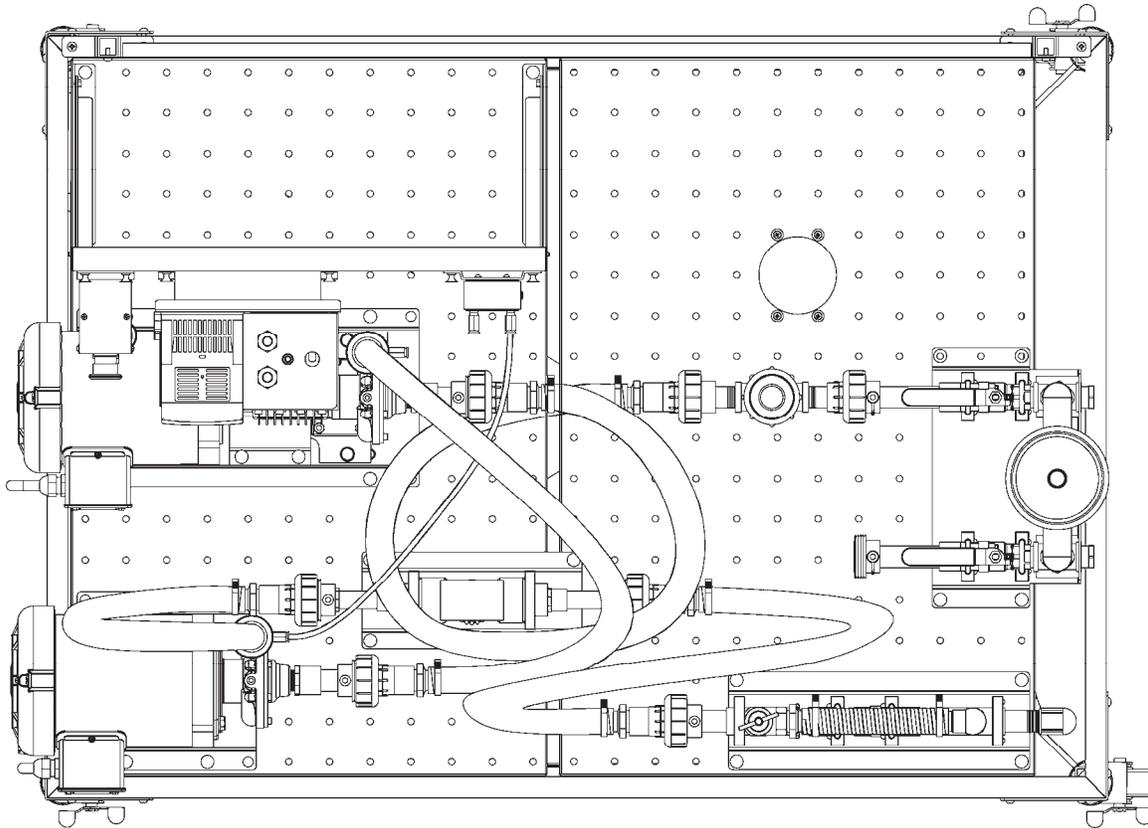

Figure 7. Circuit using two centrifugal pumps connected in series.
10. Modify your circuit to add a centrifugal pump in series with the existing pump as shown in Figure 7.